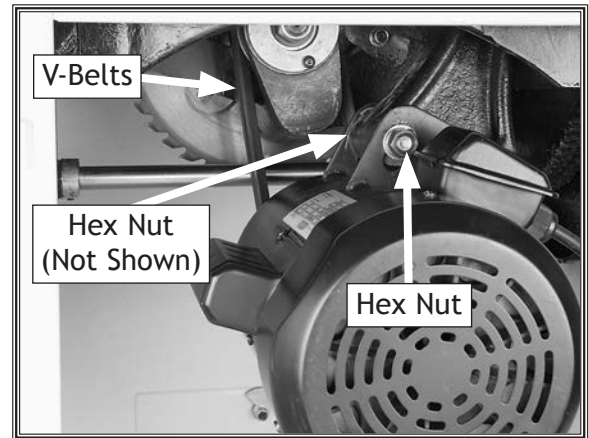

Figure 114. Motor mounting nut.
3. Loosen the hex nuts on the motor shown in **Figure 114**, and pivot the motor up and down to make sure that it is movable.
3. Loosen the hex nuts that secure the motor (see **Figure 114**) and raise the motor fully to remove tension on the V-belts. Roll the V-belts off of the arbor and motor pulleys. Install a new matching set of V-belts onto the pulleys, lower the motor to tension the V-belts, then tighten the hex nuts.